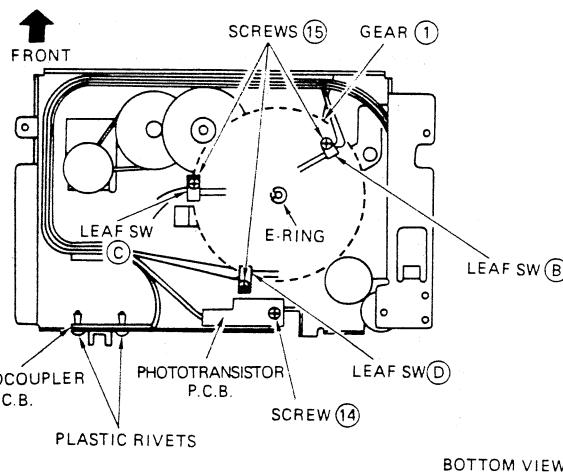

Fig. 8
- 1) Remove the screw ⑯ and remove the phototransistor P.C.B.
- 2) Remove 2 plastic rivets and remove the photocoupler P.C.B. (Fig. 8)
- 1) Pull out the E-ring of gear ① and remove gear ①
- 2) Remove 3 screws ⑯ and remove leaf switches (B) (C) and (D). (Fig. 8)